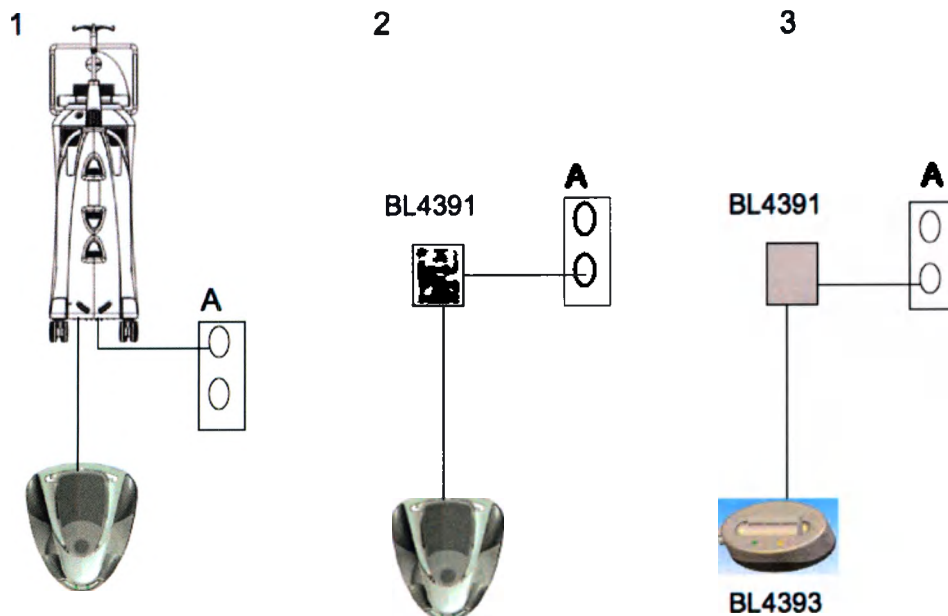

Figure 1.37. Foot Control battery Charging Options.
- With the system power cord plugged in to the electric source and the Primary (Integrated) Foot Control connected to the system; the battery will be charged if the main power switch is turned ON. This charging method applies with or without the Graphical User Interface being turned ON. See Option 1 in Figure 1.37.
- The Primary (Integrated) Foot Control can be directly connected to the wall charger. Connect the wall charger cable into the back of the Primary (Integrated) Foot Control, into the same receptacle used for the backup cable. See Option 2 in Figure 1.37.
- With an extra battery and battery charging cradle, you can connect the wall charger cable to the battery charging cradle. A green light indicates the cradle is on, a second light is yellow when charging is in progress, and green when the battery charging is complete. Once the battery is fully charged, you can take it out of the cradle and replace the battery in the Primary (Integrated) Foot Control. See Option 3 in Figure 1.37.